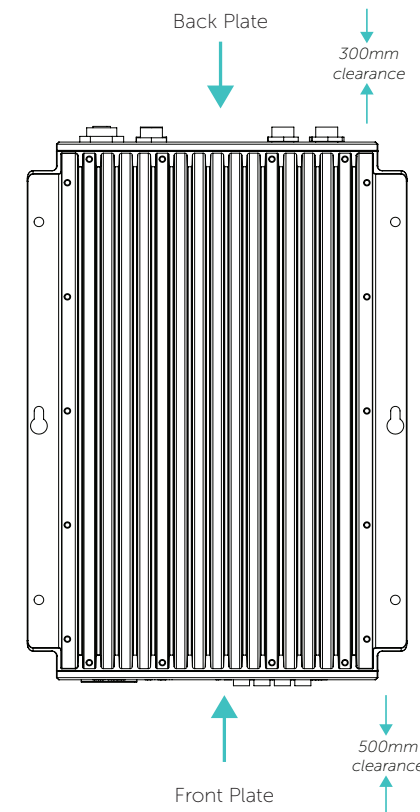
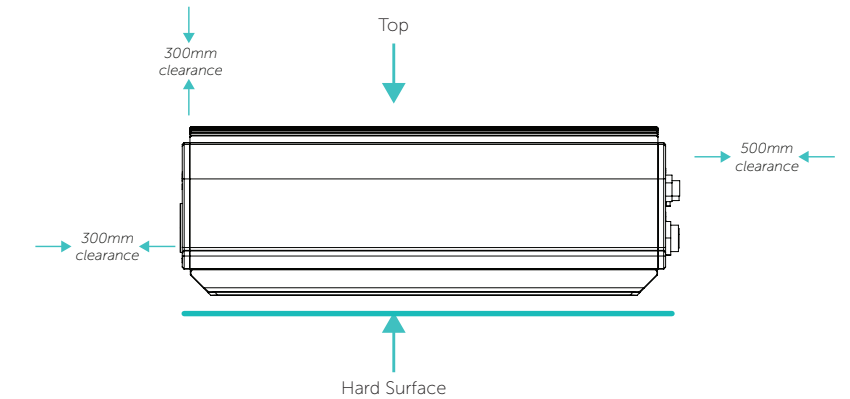

Figure 4. DRX Bulkhead Mount
Figure 5. DRX Horizontal Mount
- » A vertical position is ideal for optimal thermal performance (Transducer Connectors front face down). See "Figure 4. DRX Bulkhead Mount" on page 17.
- » The second option is horizontal on a hard, flat surface. See "Figure 5. DRX Horizontal Mount" on page 17.
- » If mounted in an enclosed space, forced ventilation will be required to maintain an ambient temperature within the stated limits around DRX. See "Figure 4. DRX Bulkhead Mount" on page 17. and See "Figure 5. DRX Horizontal Mount" on page 17.
Figures 4 and 5 show clearance required for cabling and forced air ventilation if DRX is in an enclosed space.